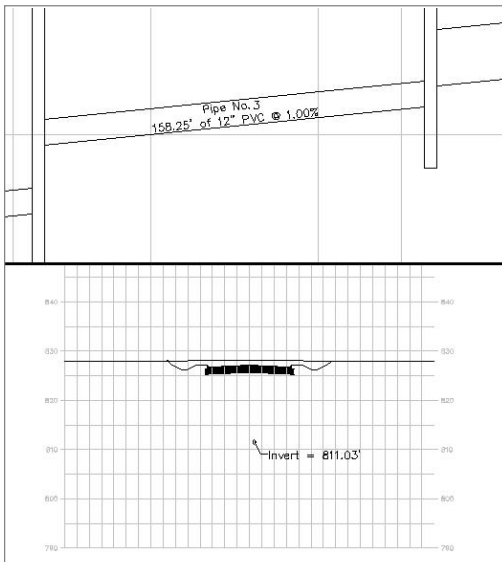

Figure 11.19
10. Click inside the top viewport to activate it. Zoom in on Pipe No. 3. This is the pipe shown in the section view. Your screen should look similar to Figure 11.19.